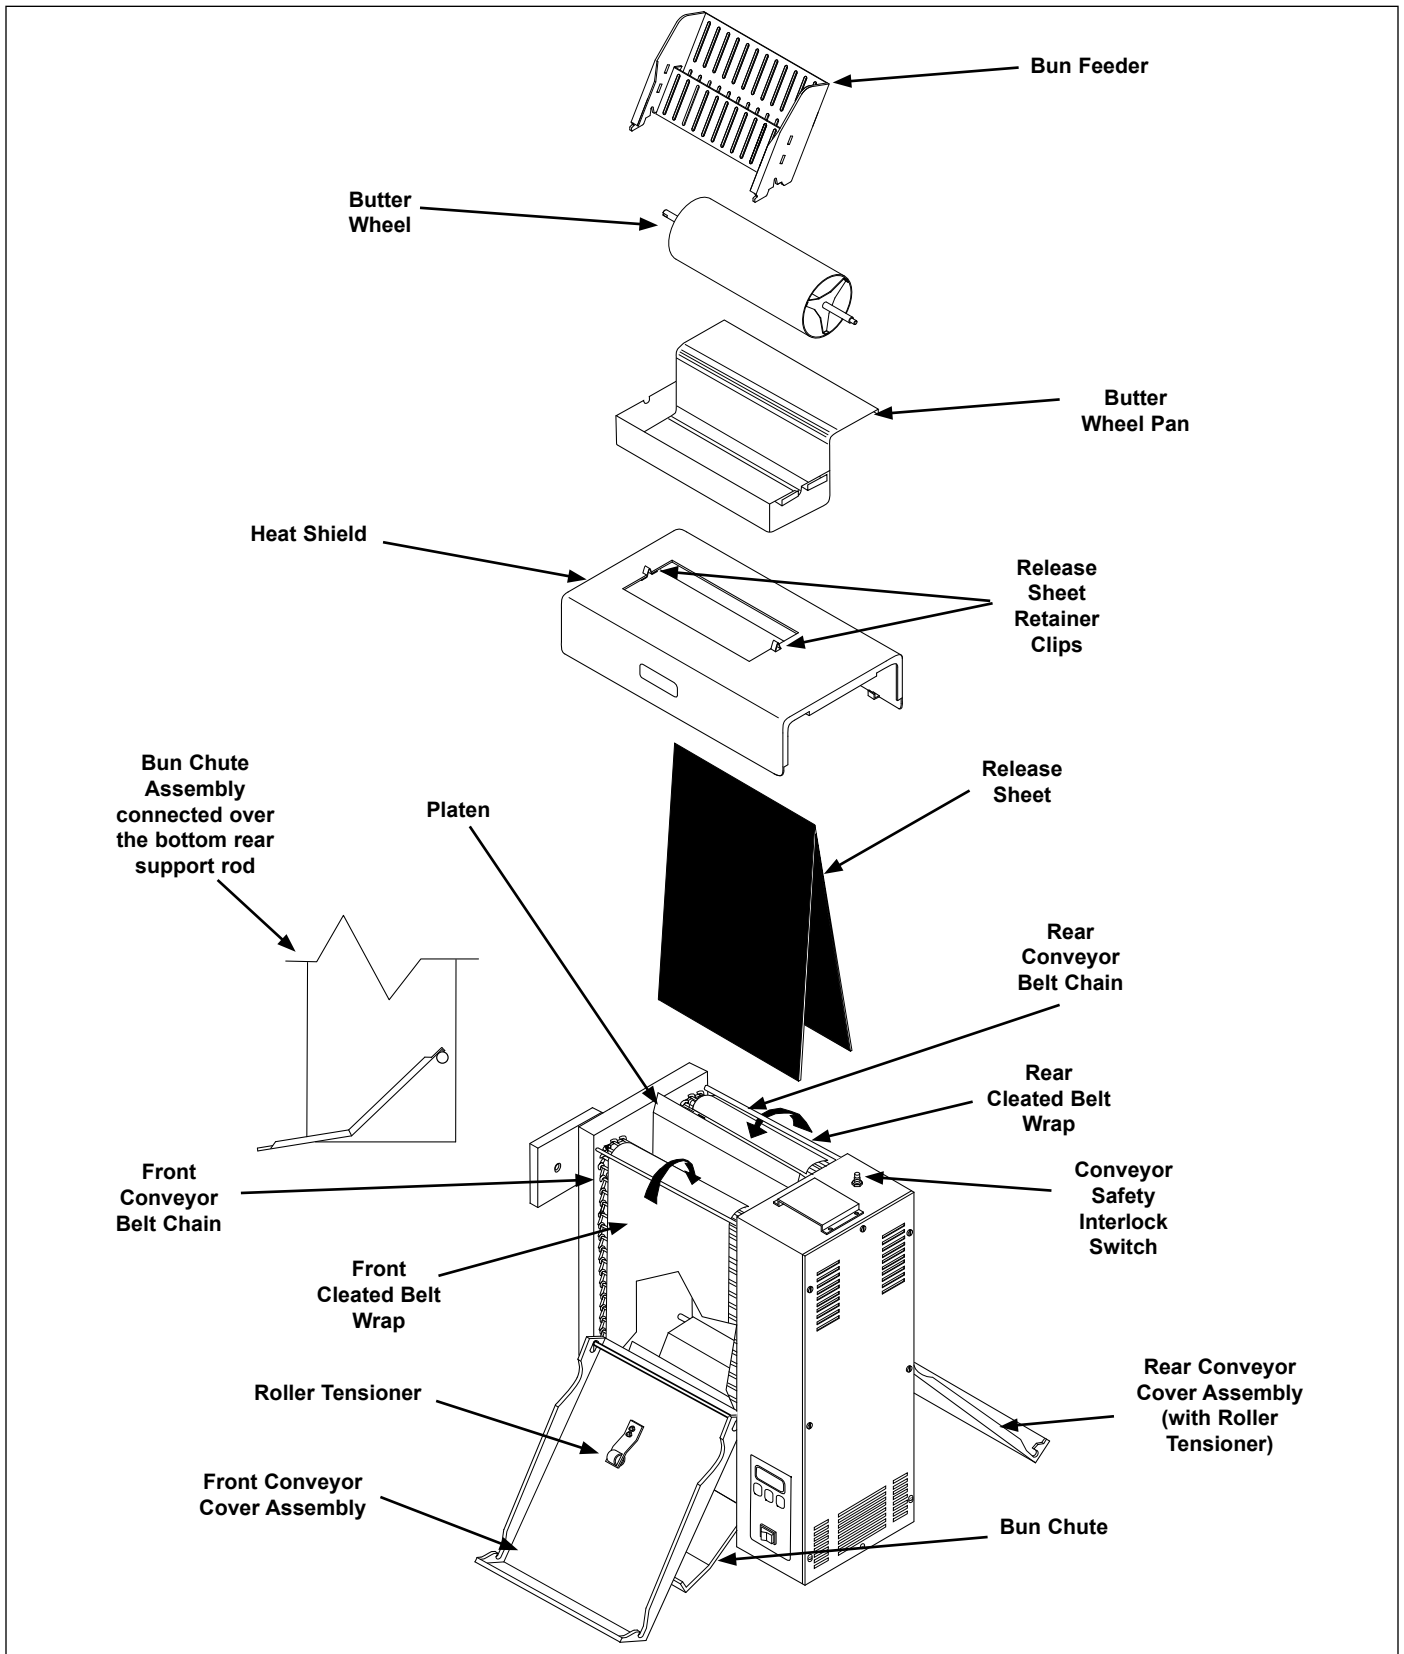

Figure 1. VCT-2000 Toaster Components
- Bun Chute (Figure 1)
- Butter Wheel and Pan (Figure 1)
- Two Release Sheets (Figure 1)
NOTE: Units are shipped with a Release Sheet pre-installed over the Platen (Figure 1). Verify that the Release Sheet is properly in place before proceeding.
1. Remove Bun Chute from the box and install (Figure 1).
2. Remove Butter Wheel and Pan from box. Install the Pan over the front edge of the Heat Shield and place the Butter Roller in Pan and engage in to gear case (Figure 1).
IMPORTANT: Make sure Heat Shield assembly is activating the Conveyor Interlock Switch (Figure 1). The conveyors will not rotate unless the Heat Shield is in place and interlock switch is activated.
Verify that the Release Sheet is installed completely over the Platen (Figure 1) before proceeding. Failure to use Release Sheet may cause permanent damage to the Platen surface. Damage caused in this manner is NOT covered by warranty.
2. Put on heat-resistant gloves and remove the Butter Wheel, Pan, and Heat Shield (Figure 1).